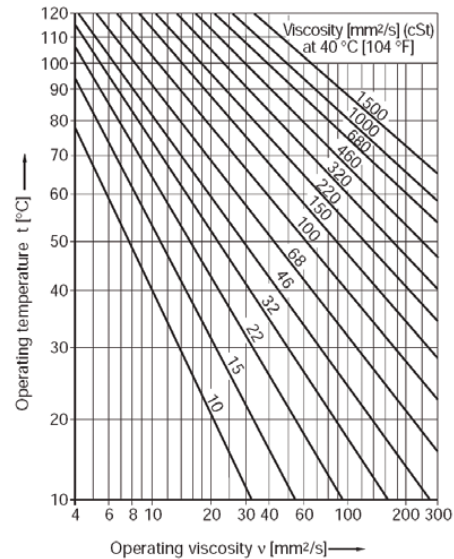

Figure 20 - Operating viscosity table
1. Using Figure 20, draw a vertical line from the 140 mm mean diameter axis until it intersects the 2000 diagonal rpm(n) line.